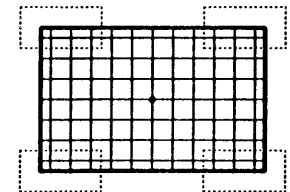

FIG. 20
33. RJ118 (C KEY) controls the four corners. Adjust RJ118 for optimum convergence at the corners of the screen. See Fig. 20.